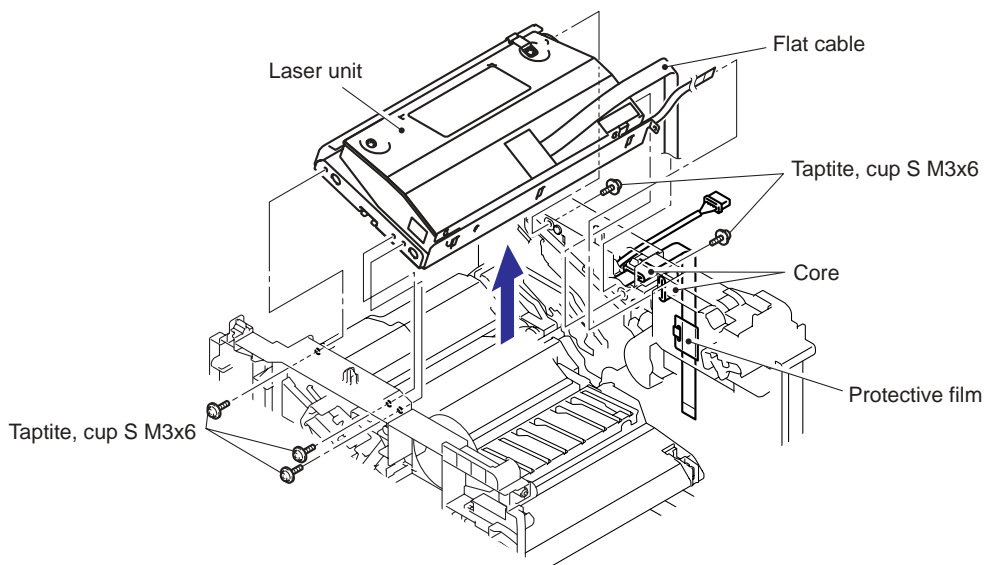

Fig. 5-91
- When assembling the Base plate LV, Direct the cable side of the PS PCB unit terminal to the backward (Fig. 5-91: To the direction of an arrow of the enlarged illustration.), and align parallel the PS PCB unit terminal with the side of the Base plate LV.
- (4) Remove the two bind B M4x12 Taptite screws, and then remove the LV insulation sheet.